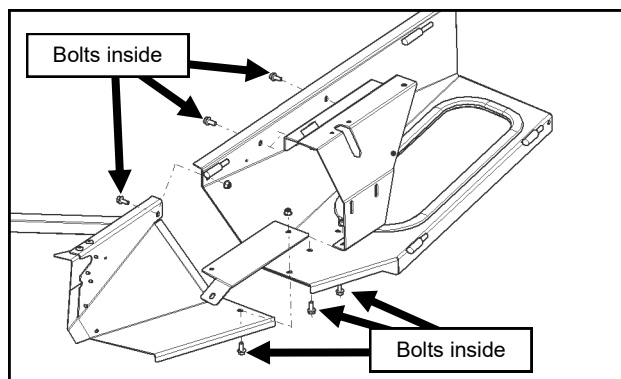

Fig. 4.1 (Assemble Contour to Rear Leg)
- 4.1 Away from the tractor, assemble the left Contour Assembly and left Rear Light Mount onto the left Rear Leg Assembly. See Figure 4.1. Install all bolts on the inside of the panel with nuts outside and centered in the slots.